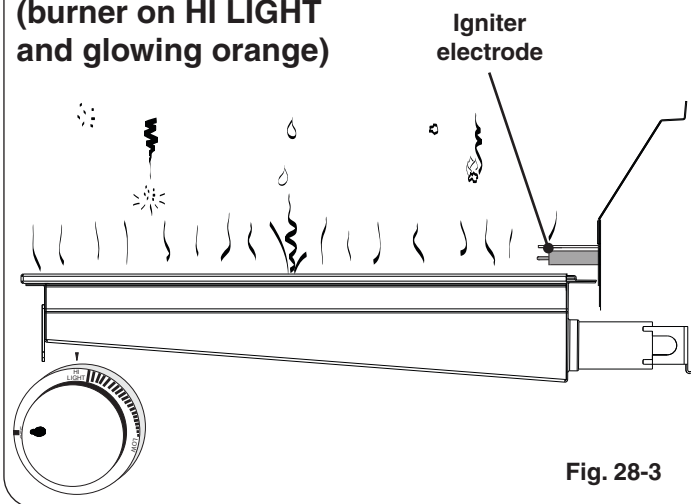

Fig. 28-3
- **DO NOT place food on the cooking grid until the infrared burner glows orange (Fig. 28-3).** Drippings are heated and evaporate instead of sticking to and impairing burner function.